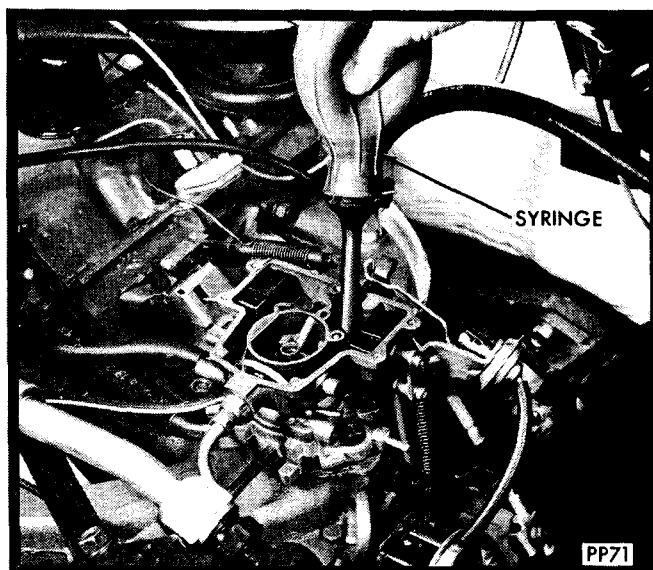

Fig. 4—Draining Fuel From Accelerator Pump Well
(13) Remove bowl cover gasket. Drain fuel from accelerator pump well with syringe type tool (Fig. 4). This is done to prevent the discharge check ball and weight from leaving its position during assembly of the bowl cover.
(14) Position bowl cover gasket on bowl cover. Carefully install bowl cover on main body. Be sure the leading edge of the accelerator pump cup is not dam-